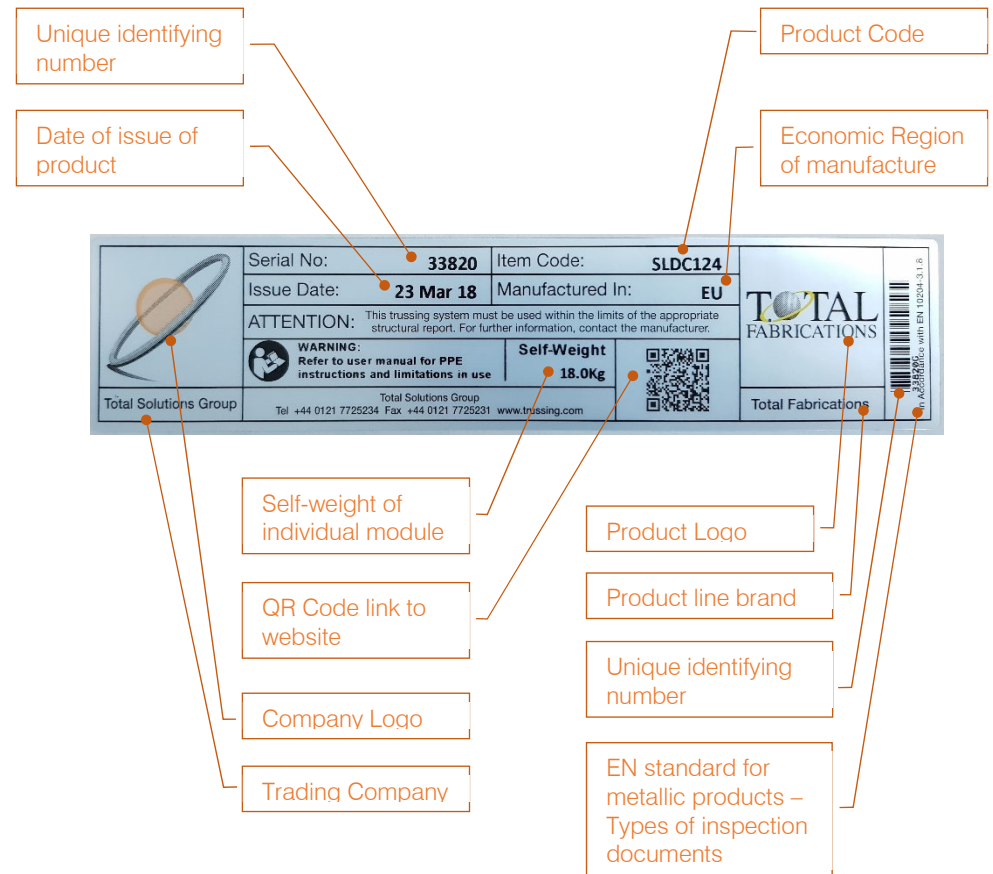

Fig. 56 – Typical Serial Label
11.1 Each component has a separate identification and Serial Label unique to TSG. *Fig. 56 – Typical Serial Label & Fig. 57 – Typical Identification Label*
11.3 The label includes the TSG name, type of component, month and year of manufacture, self-weight and the unique serial number and barcode. *Fig. 56 – Typical Serial Label*